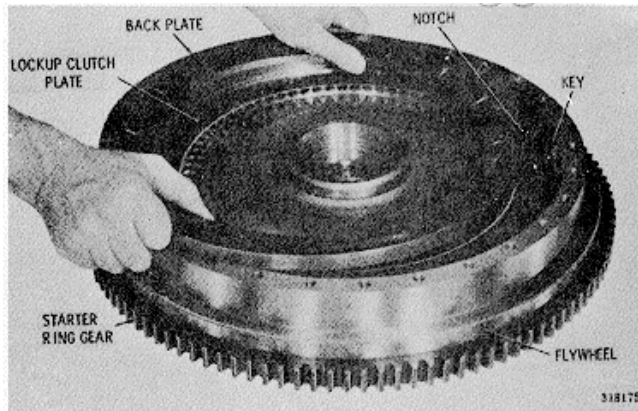

Fig. 6.2. Removing (or installing) lockup clutch back plate .
(3) Remove ball bearing 6 (B, foldout 7) from torque converter turbine 7, if parts replacement is necessary.
(4) Remove the lockup clutch back plate from the flywheel (fig. 6-2). Remove the key from the recess in the flywheel bore.
(5) Remove the lockup clutch plate (fig. 6-2).
- (7) Install the lock key in the lock key groove of the flywheel (fig. 6-2). Use oil soluble grease to retain it.
- (8) Install the lockup clutch plate (fig. 6-2)
- (9) Install the lockup clutch back plate, flat side first, engaging the notch in the plate with the key in the flywheel (fig. 6-2).